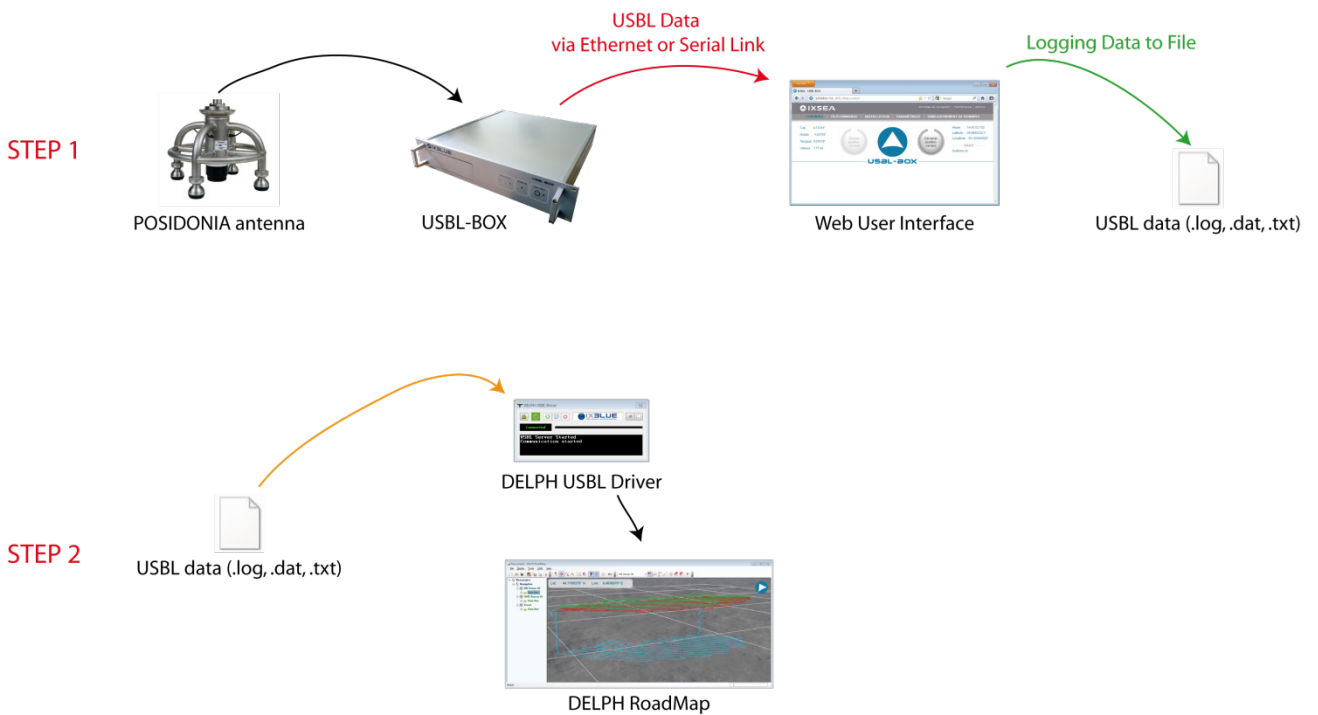

Figure 28 – Visualization of USBL data in replay mode
- Replay mode: the data has already been acquired in a first step and the data file is in a second step progressively read at a certain rate by DELPH USBL Driver and displayed in DELPH RoadMap main display area. See Figure 28.